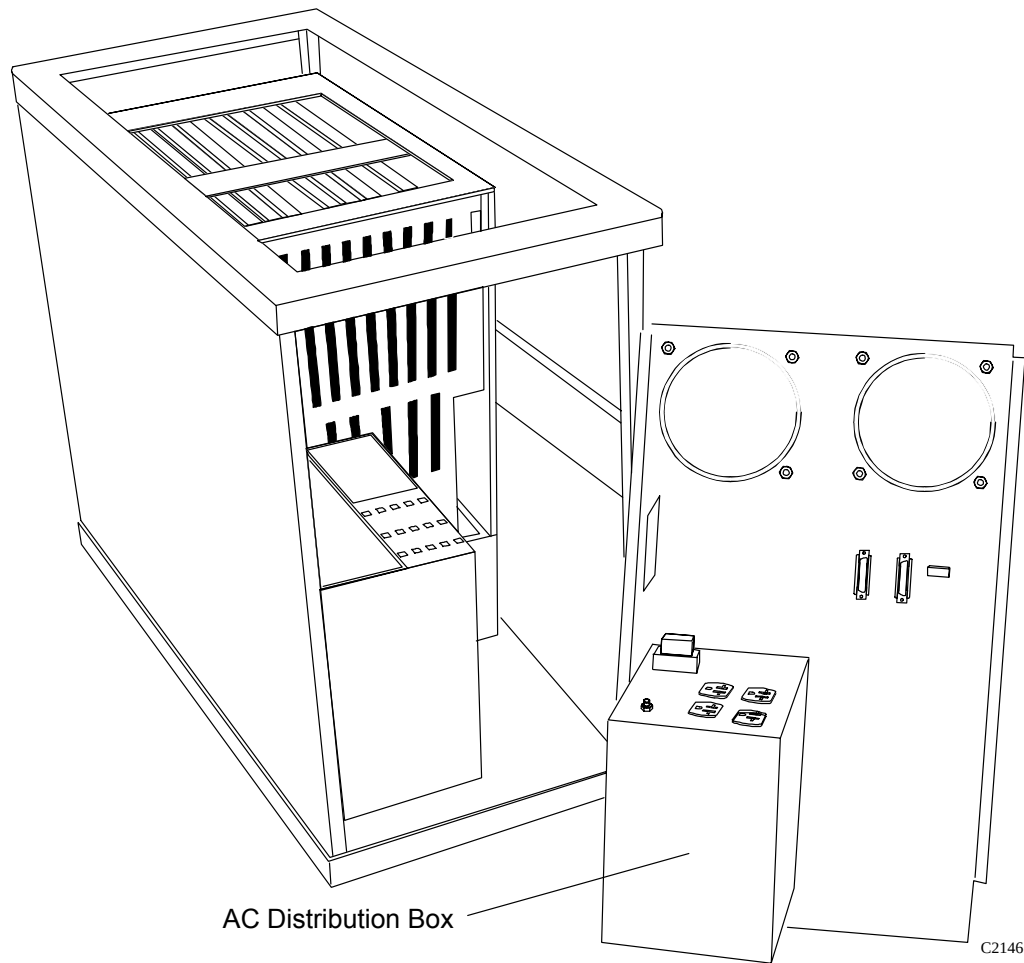

FIGURE 337 AC Distribution Box Location
4. Swing the rear panel out as shown in Figure 337.